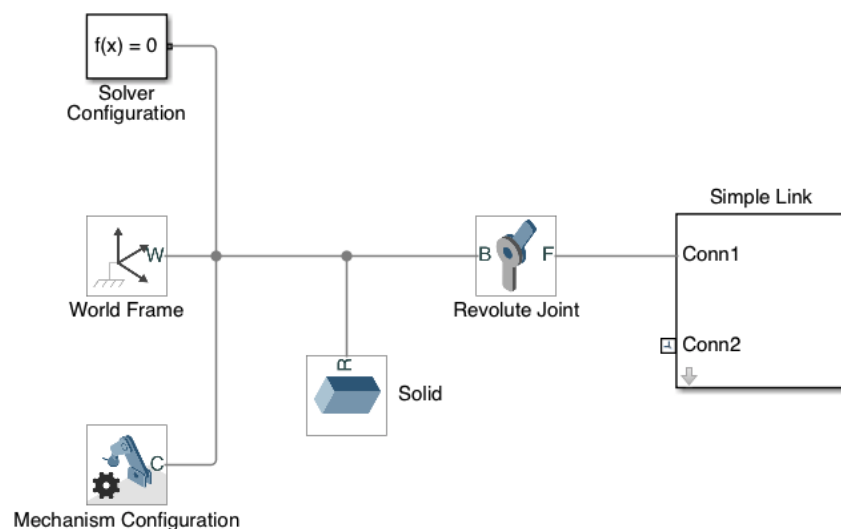

Figure 3: Simple Pendulum Model
1. Once, you have the files retrieved, open the “SimplePendulum.slx” file. The Simulink block diagram should look as it does in figure 3.